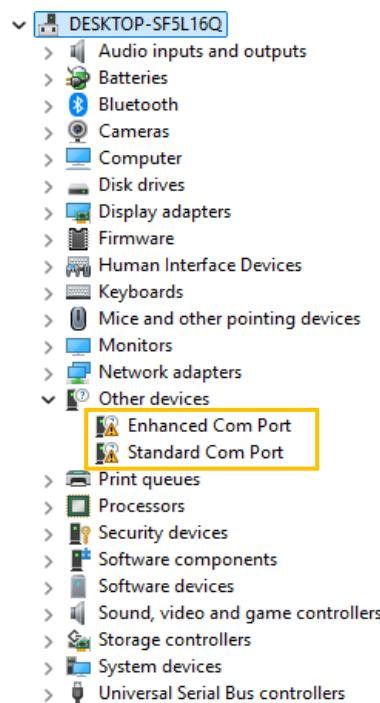

Figure 1. The device manager tab before installing the CP210x VCP (Virtual COM Port) driver.
- At minute 3:58, if the COM ports “Silicon Labs Dual CP210x USB to UART Bridge: Enhanced COM Port (COMx)” and “Silicon Labs Dual CP210x USB to UART Bridge: Standard COM Port (COMy)” do not appear in the Device Manger tab, instead, two devices appear under “Other Devices”, as shown in Figure 1, it means the required drivers are not installed. To fix this problem, use the link provided in [3] to download the “CP210x VCP (Virtual COM Port) driver”, then restart your PC, and the EVM’s ports should appear under “Ports (COM & LPT)”.